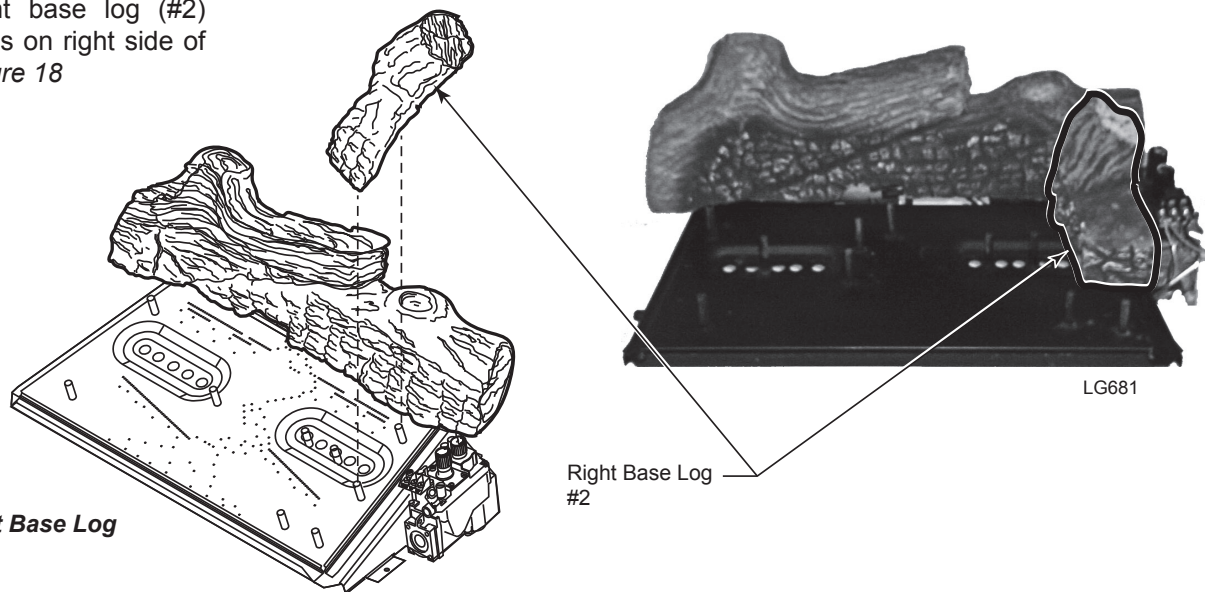

Figure 18 - Place Right Base Log
2. Place right base log (#2) on two pins on right side of grate. *Figure 18*